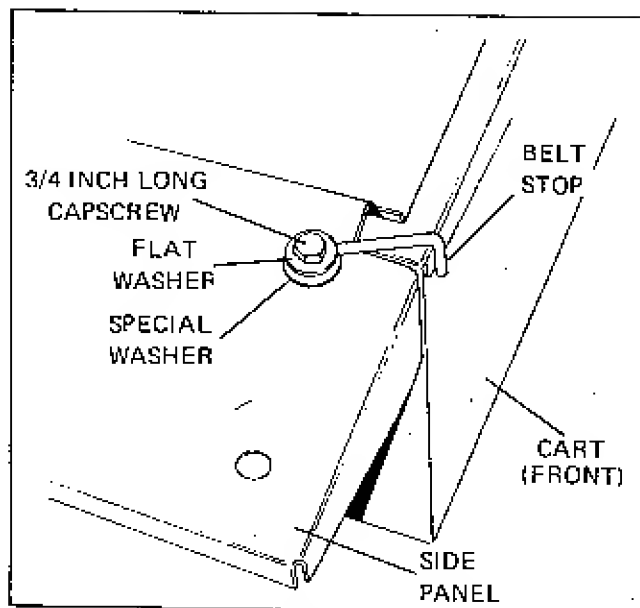

FIGURE 20
6. Secure belt stop to inside front of side panel with two flat washers (one above and one below side panel), special washer, 3/4 inch long cap screw, and locknut (Figure 20). Position belt stop at angle illustrated. Repeat procedure for remaining front corner.